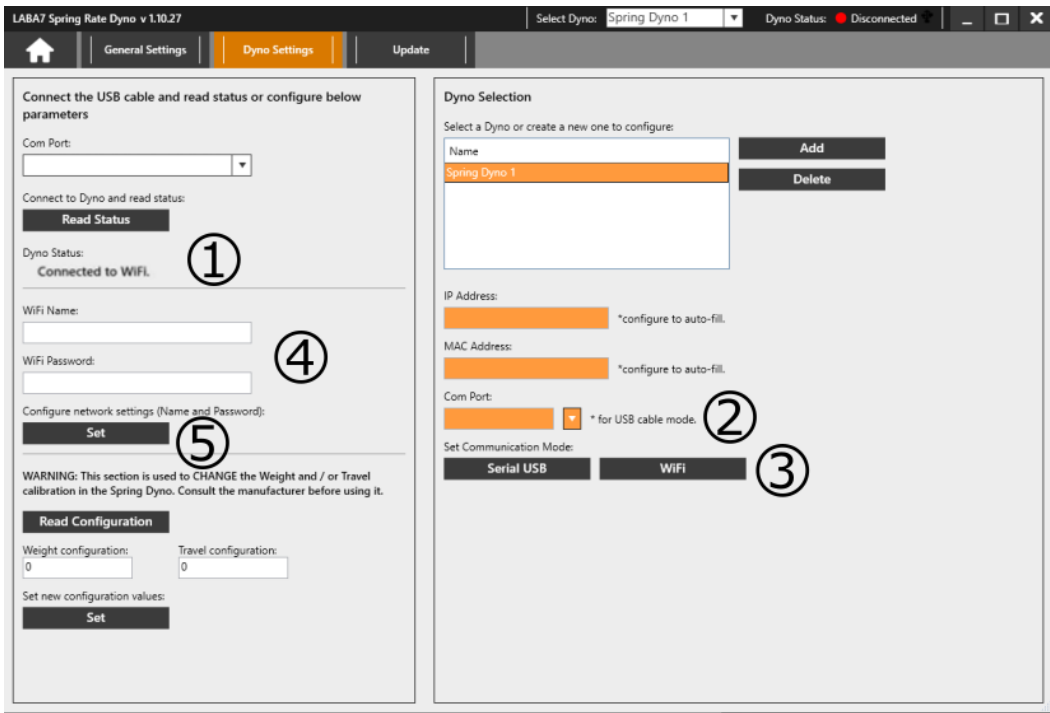

Figure 12
9. Note the Status that was received from the Dyno (Figure 12 – Step 1).
11. Select the Com Port of the connected Dyno from the drop-down menu in the Dyno Selection area (Figure 12 – Step 2).
12. Click on the WiFi button to enable the wireless communication mode in the Dyno (Figure 12 – Step 3).
13. Enter the WiFi name and password into the corresponding fields (Figure 12 – Step 4).
14. Click on the Set button (Figure 12 – Step 5).